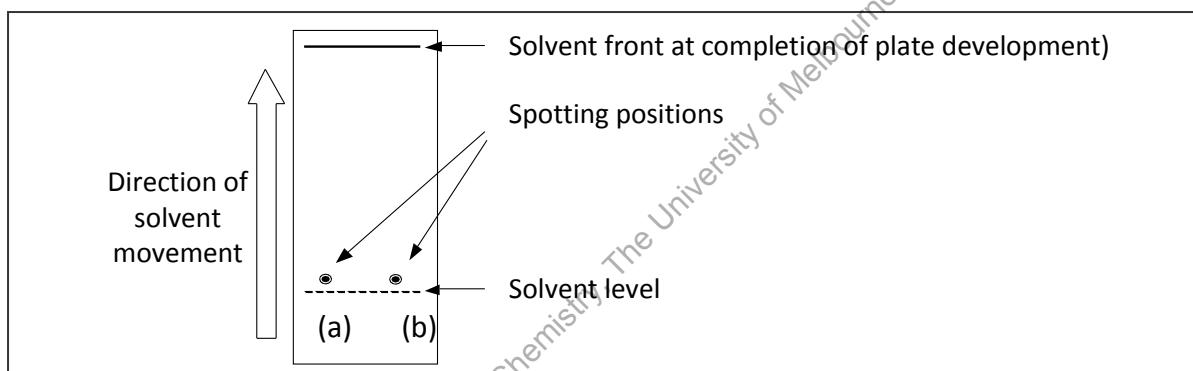

Figure 7.2 Thin Layer Chromatogram
- b) the solution of a 1:1 mixture of benzoin and the diol reduction product (supplied) at the positions indicated in Fig. 7.2.